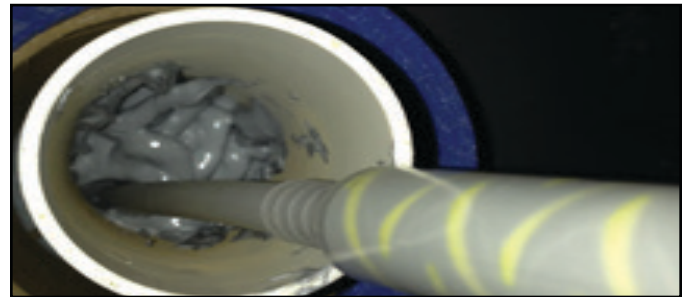

Figure 3
(See Figure 3)
Platform Frame & Pump/Motor/Nozzle Assembly (See Figures 3 & 4)
STEP 3: Take pvc sleeve and fill half way with epoxy. Push wires all the way to the bottom to ensure crimps are covered with epoxy. (See Figure 3)